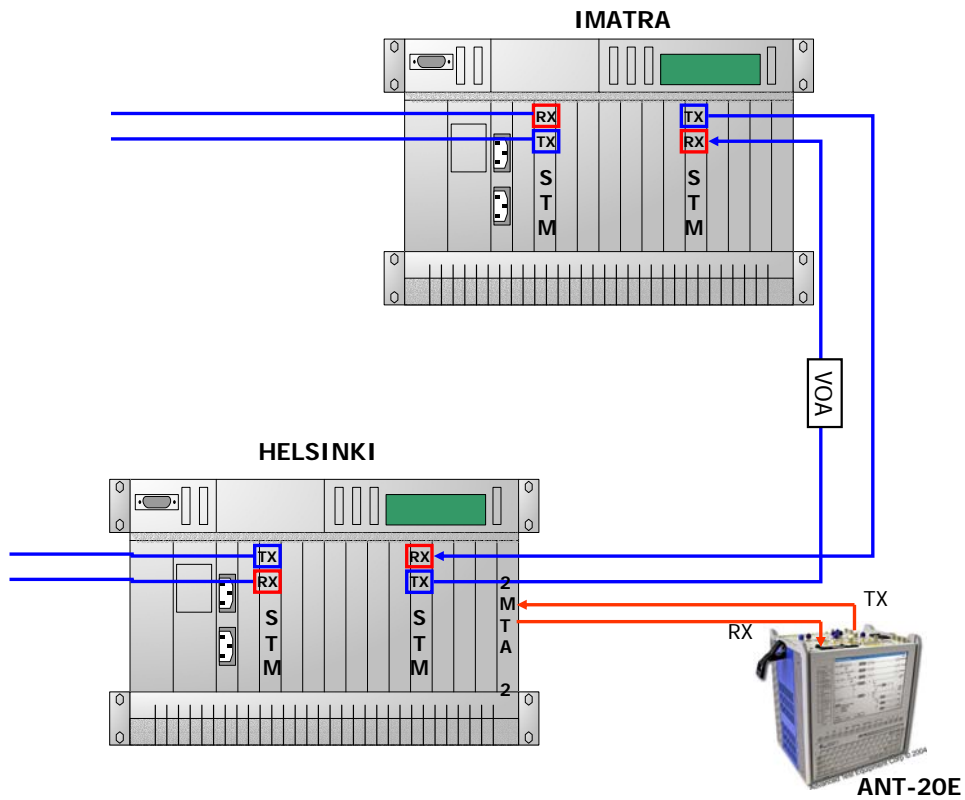

Figure 11 Configuration of SDH network and ANT-20E tester.
Step 2: The lab supervisor will then replace the audio test signal cables and connect the coaxial cables transporting the ANT-20E PRBS test signal in the same 2MTA add/drop ports you had used before. Now the test signal is sent to/from Imatra via the following route: Tester ^ Helsinki ^ Imatra (loop) -* Helsinki ^ Tester as shown in Figure 11.